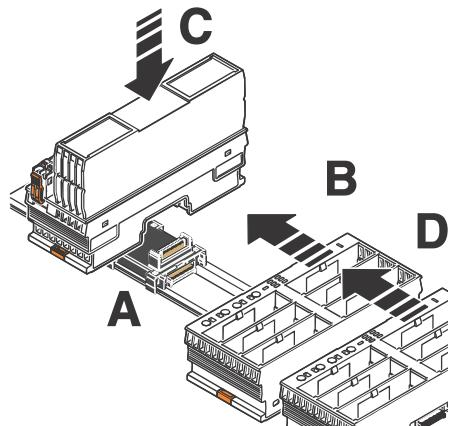

Figure 11-10 Connecting the backplane with the bus base module
- Place the backplane on the DIN rail (Figure 11-10, A).
- First backplane: push the connection of the backplane into the connection of the previous bus base module (Figure 11-10, B).
- Place the controller or bus coupler onto the bus base module (Figure 11-10, C). See Section “Bus base modules, controllers, and bus couplers” on page 54.
- Subsequent backplanes: push the backplanes together (Figure 11-10, D).